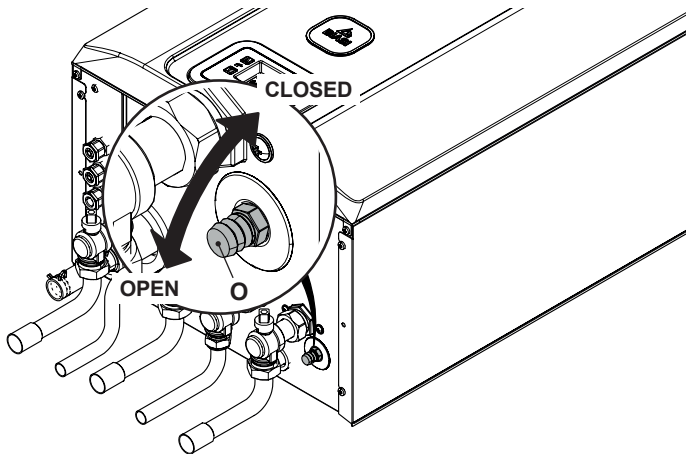

Figure 2.11
- 3 Loosen the central heating drain cock "O" (Figure 2.11) until the boiler is completely emptied.